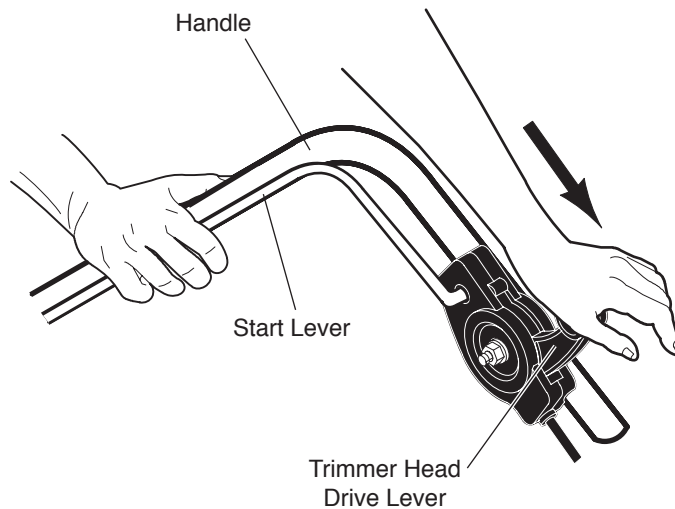

Figure 9
1. To engage the trimmer head, hold the start lever against the handle. Move the trimmer head drive lever forward to engage the trimmer head. (See Figure 9)